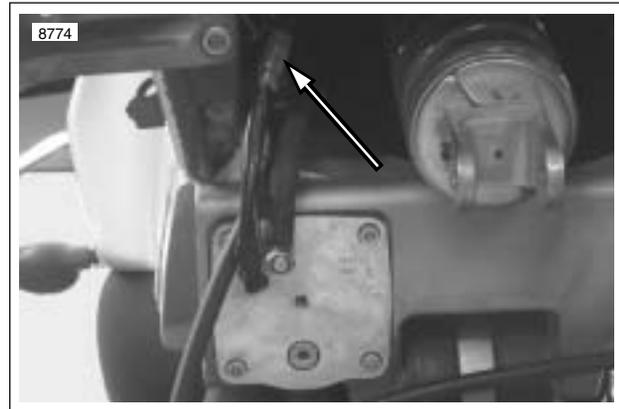

Figure 4-66. Fuel Pump connector [86] (swingarm removed for illustration)
- a. See Figure 4-66. Disconnect the 4-place fuel pump connector [86]. Connector is located on the left side, above the fuel pump.